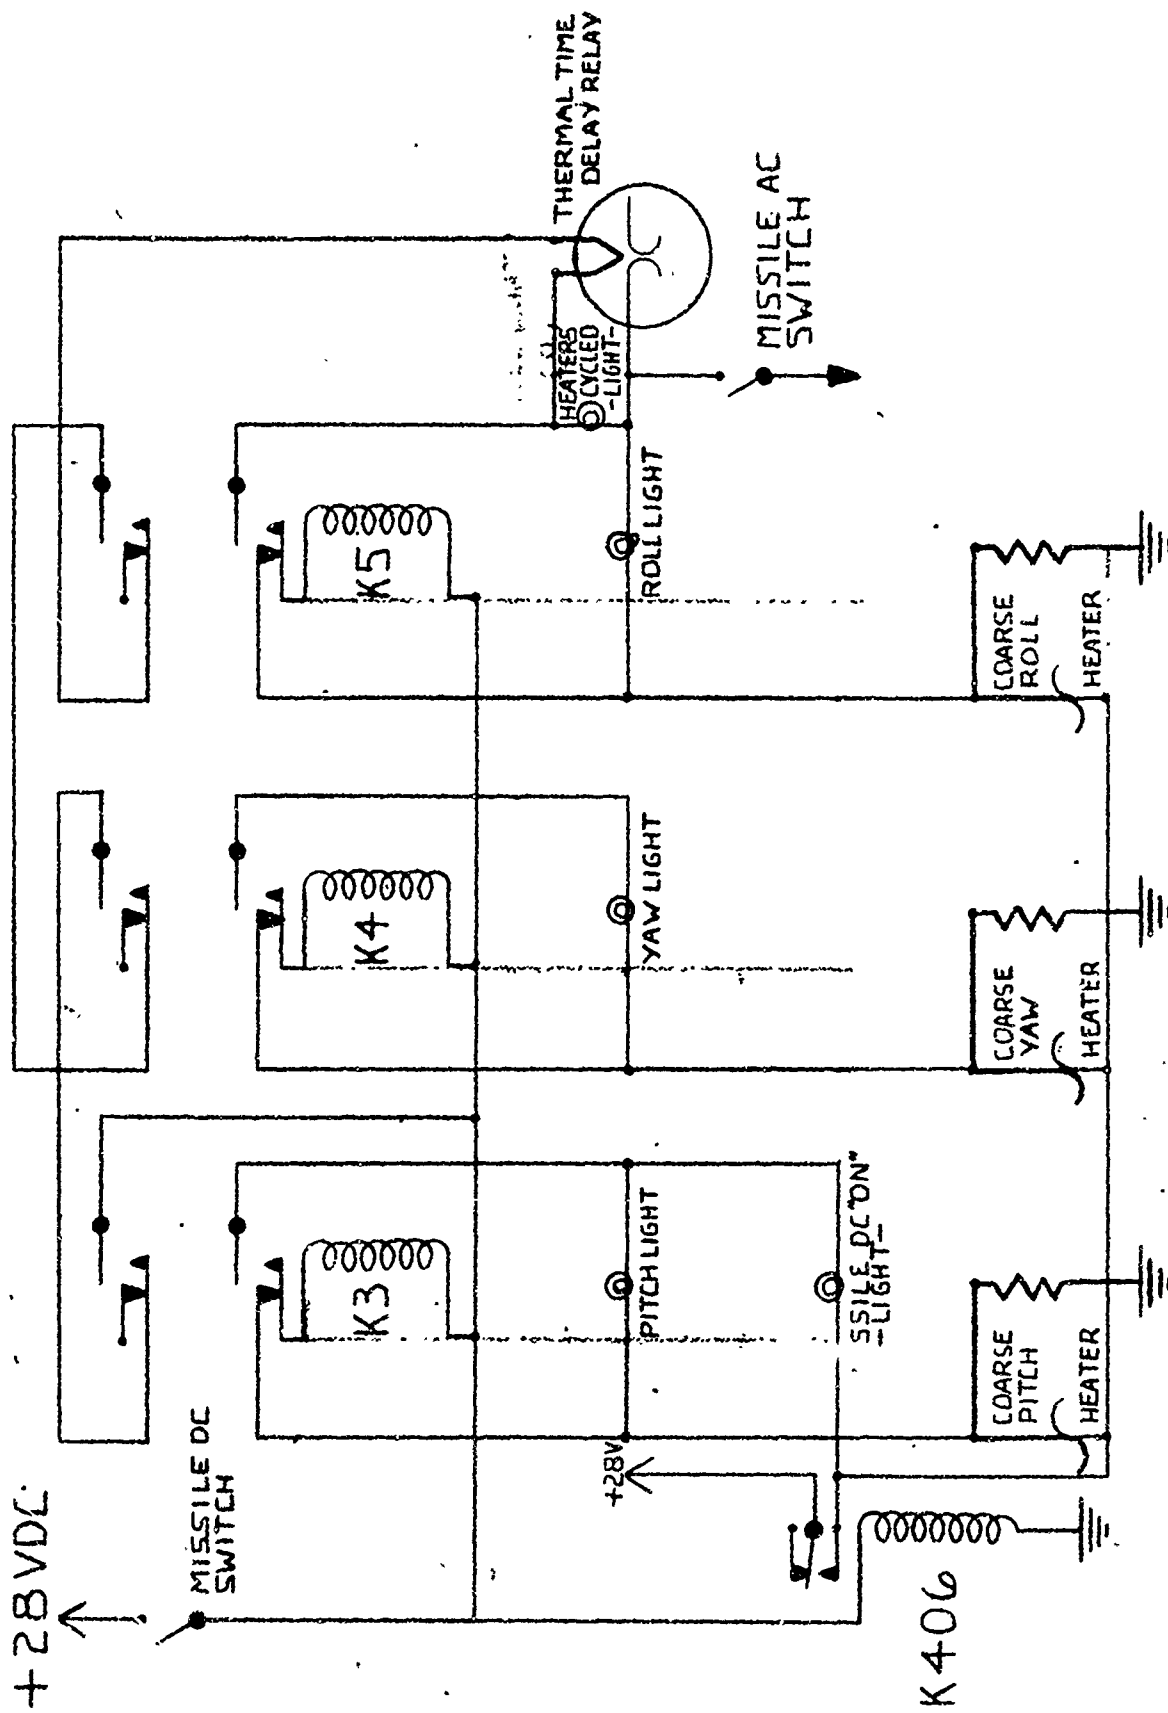

FIG. 9
(1) DC Voltage
By closing the Missile Power Switch (S2), +28 volts DC is applied to one side of the coils of the Gyro Coarse Heater Relays (K3, K4, and K5). The other side of the coils are connected to +28 volts DC at the Gyro Coarse Heaters. (Figure 9 is a simplified schematic of the Coarse Heater Relays and associated circuitry). When the Gyro Coarse Heaters have come up to temperature, (140 degrees, +5 degrees Fahrenheit), a thermostat opens, removing the +28 volts DC from the Gyro Coarse Heater Relay coils allowing current to flow through the heater windings to -28 volts DC. (This flow of current energizes the Coarse Heater Relays, causing them to lock in a Closed position). When all three (3) Heater Relays (K3, K4, and K5) are closed, +28 volts DC is applied to the filament of the Thermal Time Delay Relay (K2). Five seconds later the Thermal Time Delay Relay (K2) closes